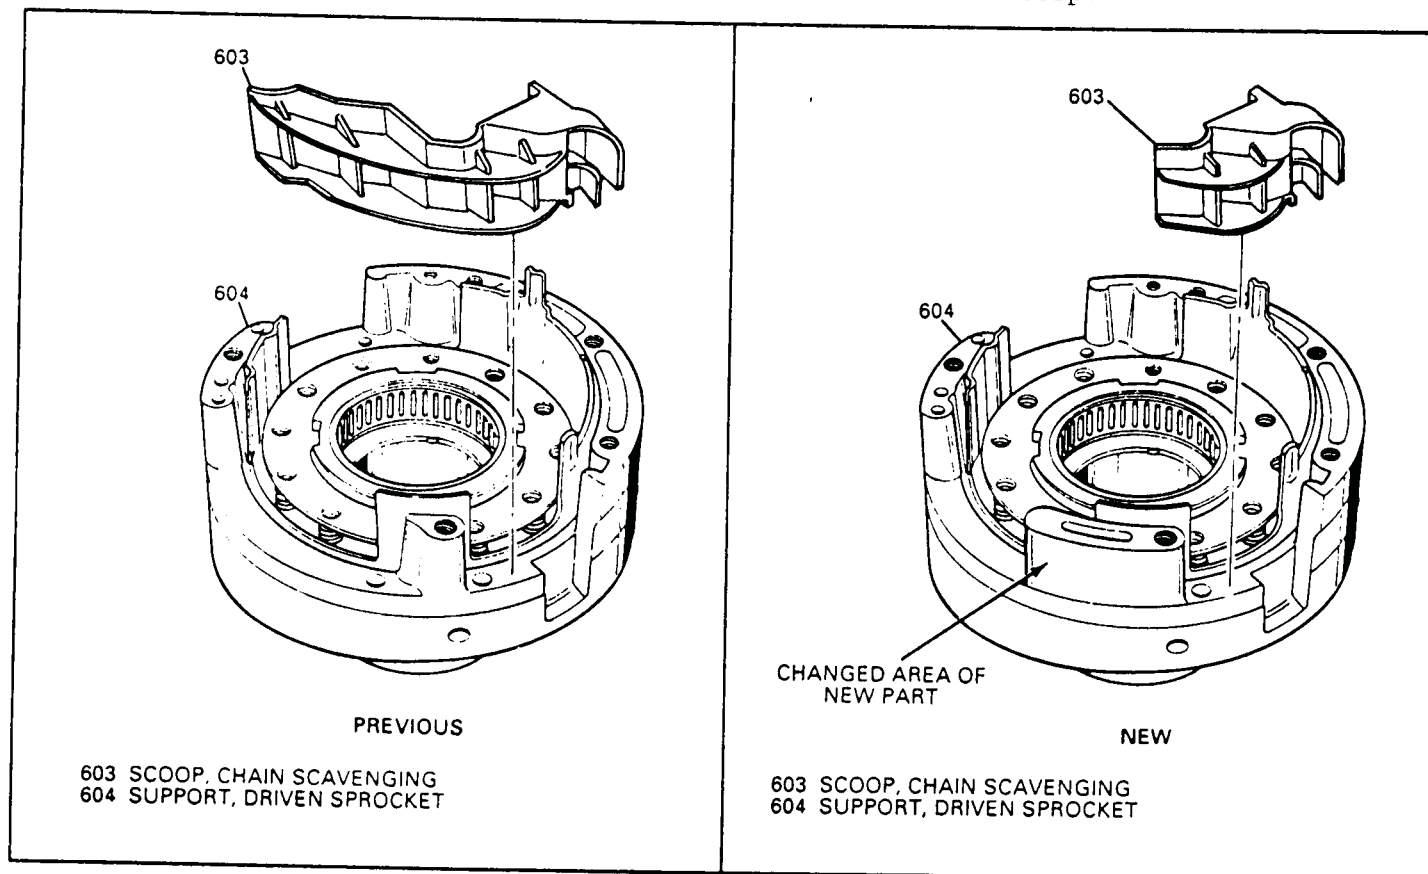
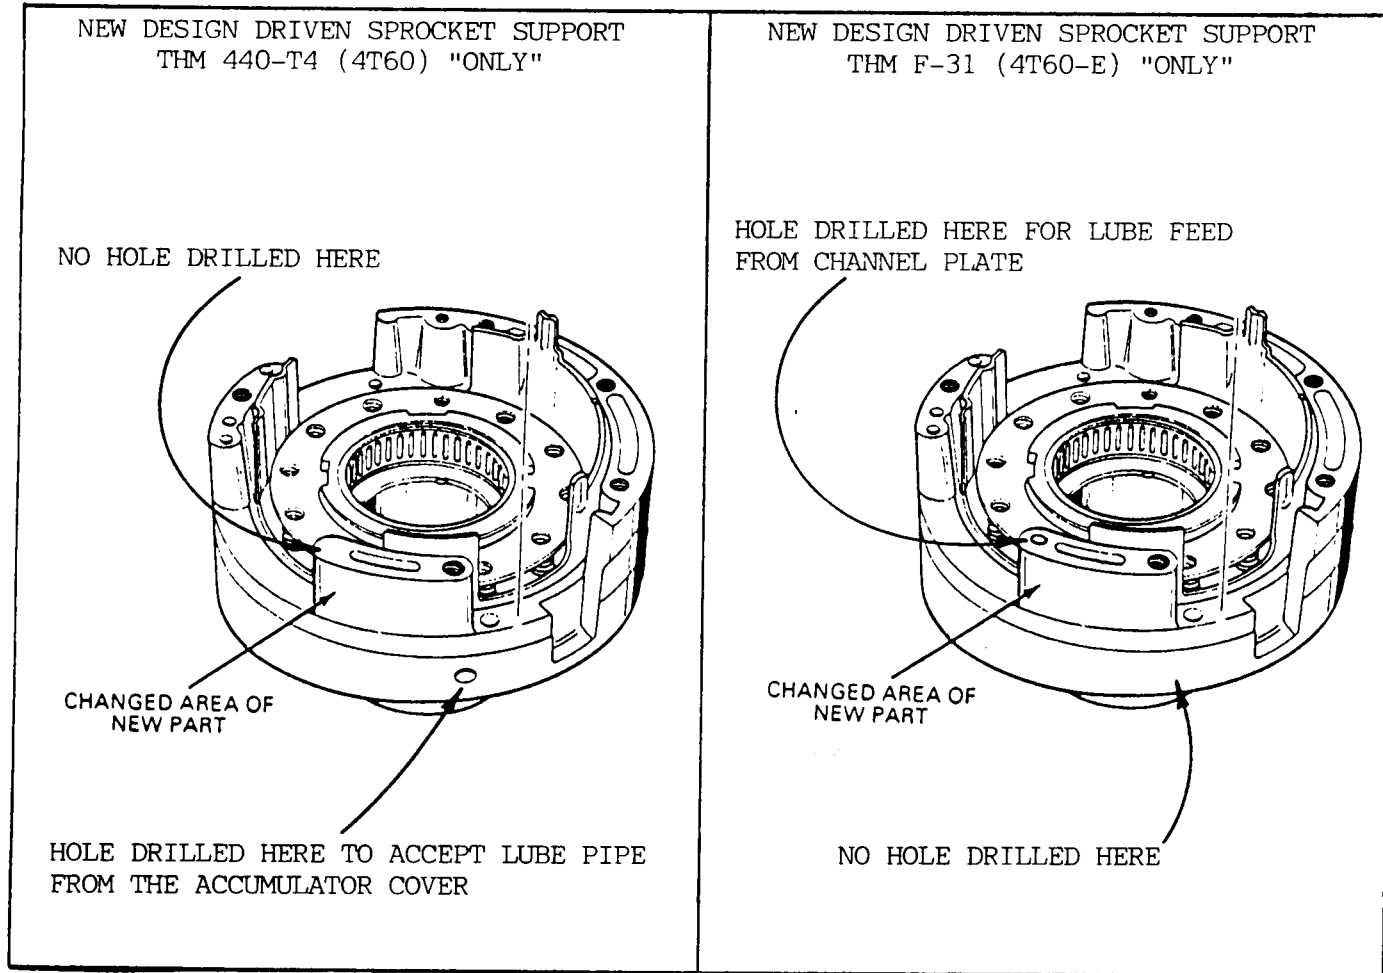

Figure 1
Figure 2
CHANGE: A new Driven Sprocket Support and Chain Scoop is now used in production on all 1990 vehicles equipped with a THM 440-T4 (4T60) transaxle. (See Figure 1).
- (1) **DRIVEN SPROCKET SUPPORT** - The new design sprocket support has an increased width of one leg on the support (See Figure 1). The wider leg on the new support will accomodate a new lube feed passage for the new THM F-31 (4T60-E) transaxle. Lube feed for the THM F-31 (4T60-E) will be thru the channel plate, instead of the pipe from the accumulator cover as on the THM 440-T4 (4T60) (See Figure 2).
- (2) **CHAIN SCOOP** - The new sprocket support requires the chain scoop, both black and white, to be about 1/3 the length of the previous chain scoop. (See Figure 1).